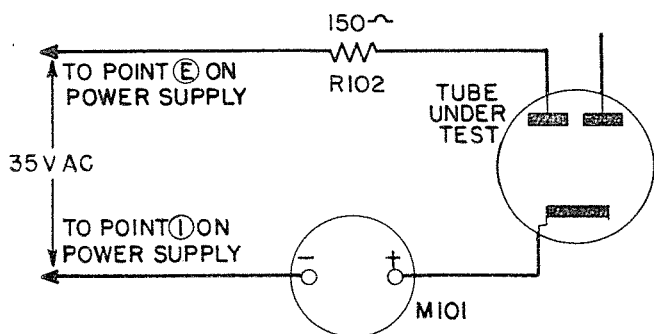

Figure 2-6. Simplified Rectifier Test Circuit
(See Figure 2-6)
e. Pressing the button P 6 sets up a circuit similar to Figure 2-6, but a higher voltage is applied, 287 volts ac, for testing rectifiers of the cold cathode type such as the 0Z4 type.
f. Pressing button P 2 also establishes a circuit similar to Figure 2-6, but a lower voltage, 20 volts ac, is used to protect the delicate cathodes of diode detector types such as the 6H6.